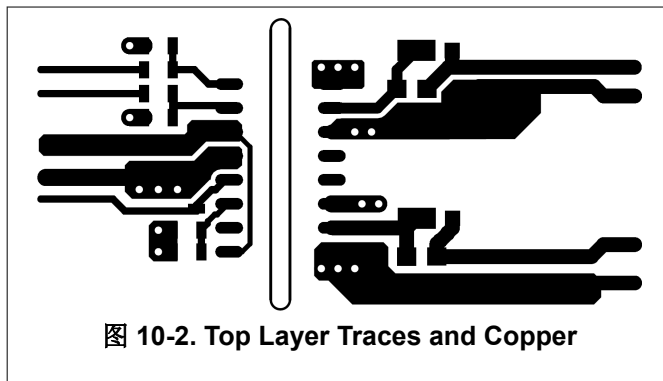

图 10-2. Top Layer Traces and Copper
- Increasing the PCB copper connecting to VDDA, VDDB, VSSA and VSSB pins is recommended, with priority on maximizing the connection to VSSA and VSSB (see 图 10-2 and 图 10-3). However, high voltage PCB considerations mentioned above must be maintained.
图 10-2 and 图 10-3 shows top and bottom layer traces and copper.